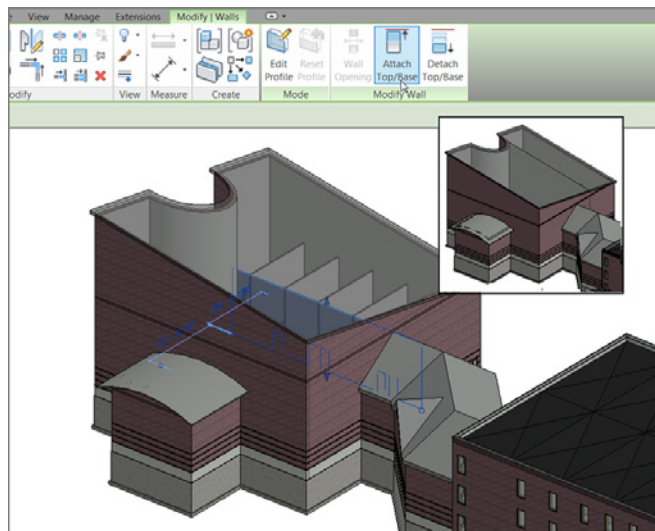

FIGURE 9.12: Attaching the wall to the roof
1. Select the wall shown in Figure 9.12.
Your wall should look like Figure 9.12.